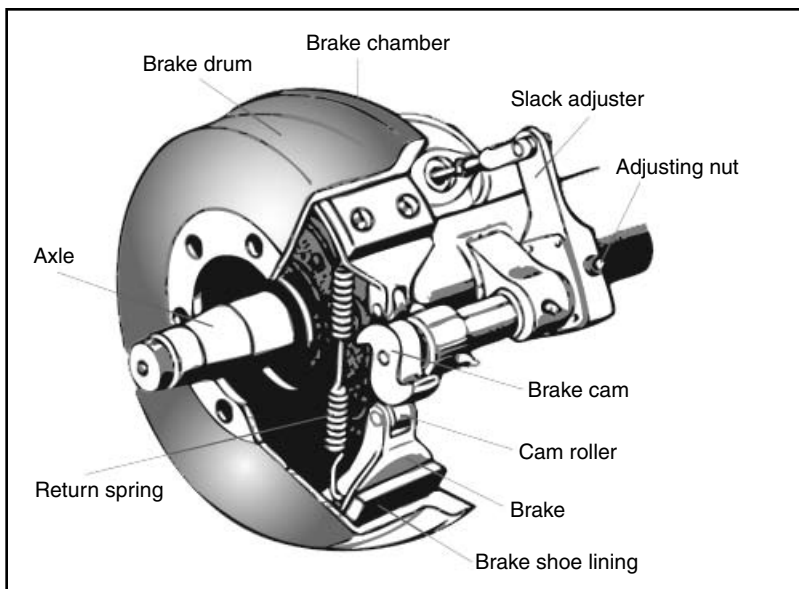

Figure 5.2, Drum brake
**S-cam brakes.** When you push the brake pedal, air is let into each brake chamber. Air pressure pushes the rod out, moving the slack adjuster, thus twisting the brake camshaft. This turns the s-cam (so called because it is shaped like the letter "S"). The s-cam forces the brake shoes away from one another and presses them against the inside of the brake drum. When you release the brake pedal, the s-cam rotates back and a spring pulls the brake shoes away from the drum, letting the wheels roll freely again. See Figure 5.2.